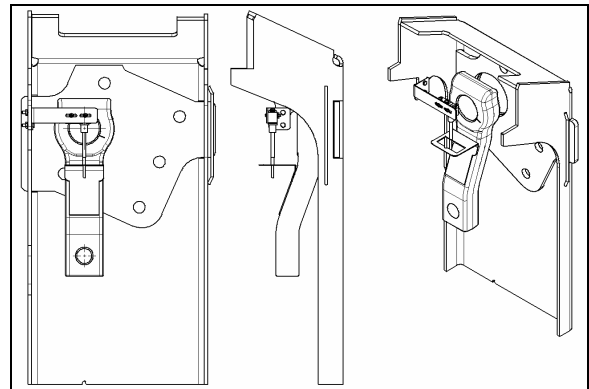

FIGURE 8: TAG AXLE UNLOADING SWITCH ADJUSTMENT 14061
2. Line up switch lever with reference to the bracket center (Refer to figure 8).